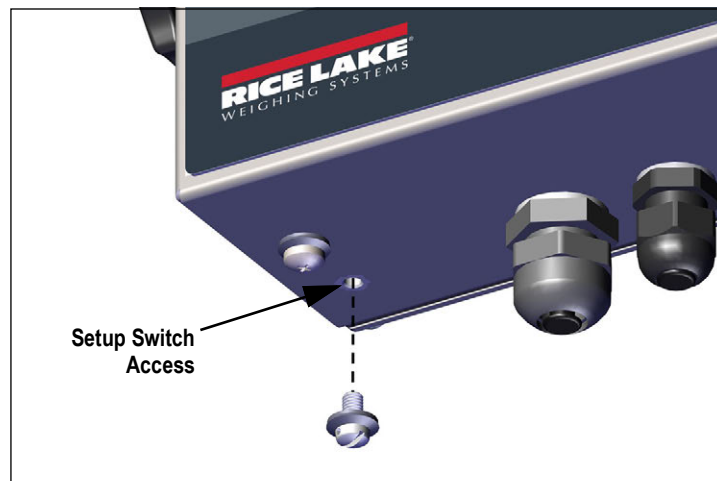

Figure 4-1. Setup Switch Access
1. Access setup mode by pressing the setup switch (Figure 4-1 on page 32).  $\overline{C}OnF, \overline{C}$  displays.